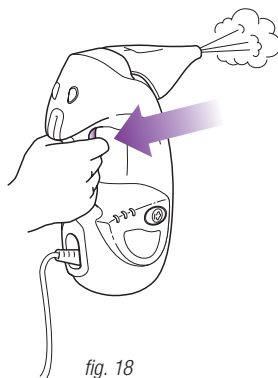

fig. 18
- 3 The Handheld Steamer is automatically set to **SCRUB** mode. Squeeze the steam trigger to activate steam. To change modes press the **ON/STEAM SETTING** button to select either **DUST**, **MOP** or **SCRUB** mode. You can change the steam mode while the Handheld Steamer is in standby or in use. Once the selected setting indicator light has turned blue, hold down the steam trigger to start steaming. (fig. 18)